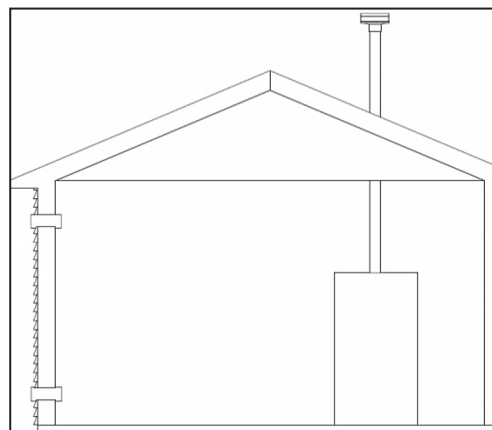

Figure 18 - Combustion Air from Outdoors
1. If air is taken directly from outside the building with no duct, provide two permanent openings to the mechanical room each with a net free area of one square inch per 4000 BTU/hr input. See Figure 18.